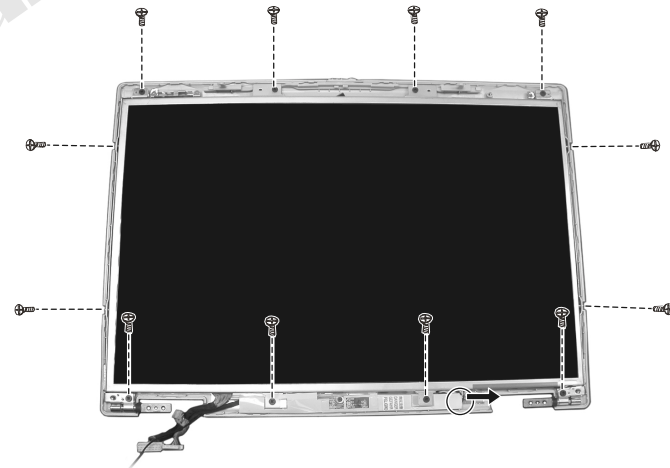

Figure 2-21 Remove the ten screws and disconnect the cable
4. Remove the ten screws and disconnect the cable. (Figure 2-21)